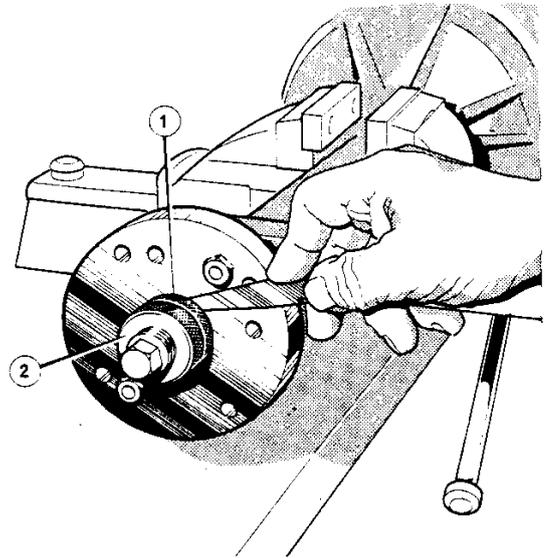

Figure 9 Determining overall differential end float using gauging tool
10. Using the three legged puller tool No. RT 3072-1 on slide hammer tool No. 3072, remove the axle housing outer bearing cones (**Figure 9**).
4. Assemble the components of the tool (**Figure 9**), screwing the circular plates on to the push rods. Insert these through the axle tube, ensuring that the swivel pad on each end is felt to locate in each side of the differential carrier bore. Screw plates up to the axle tube and secure with the bolt supplied. Unscrew both rods slightly before
5. Unscrew the right-hand side push rod approximately 3.2 mm (1/8 in). Screw in the left-hand push rod with a load of 2-4 lb/ft maximum, thus pushing the differential assembly over in to the right-hand housing. Screw up the gauging nut lightly to the face of the circular plate. Carefully screw the locking nut up to the gauging nut and screw the push rod back approximately 3.2 mm (1/8 in), ensuring the gauge nuts move with the screw as they come away from the plate. Screw in the right-hand push rod 2-4 lb/ft maximum, thus pushing the differential unit in to the left-hand axle housing. Screw in the left-hand push rod until a stop is felt. Measure the gap between the circular plate and the gauge nut with a feeler gauge and record the figure (**Figure 9**) which will represent the overall end float.